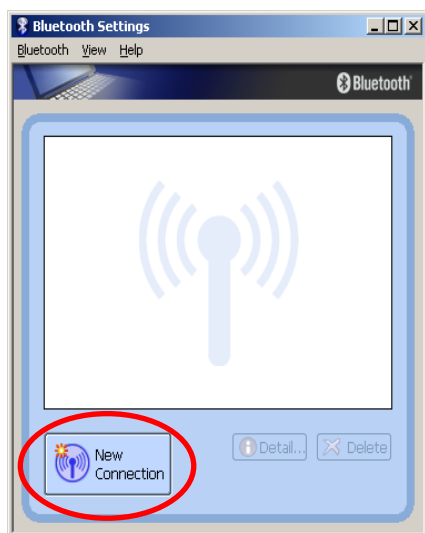
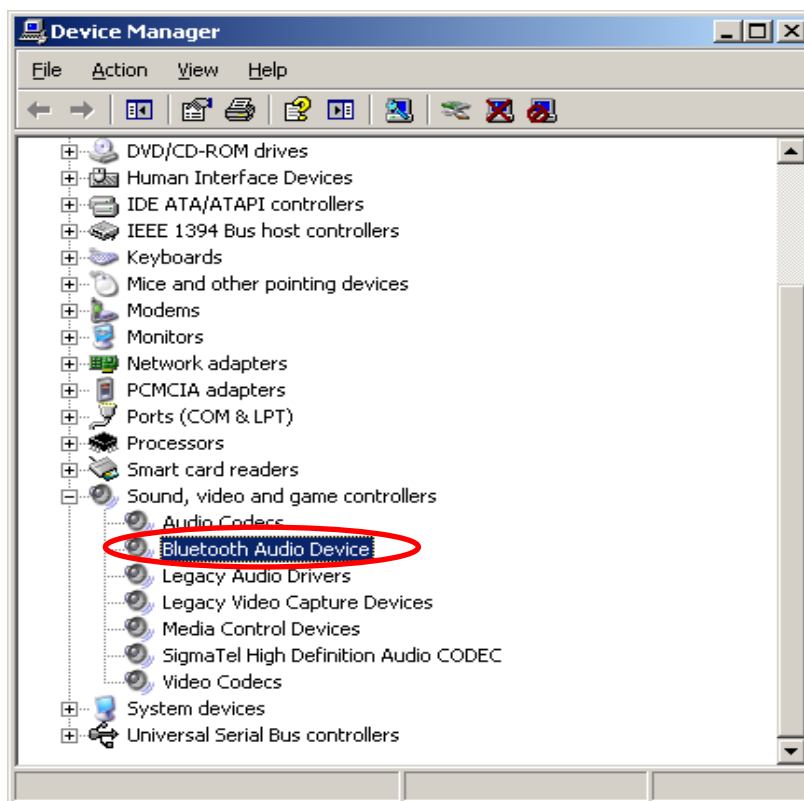

Figure 2-7: A2DP example 1 – PC Bluetooth settings
Figure 2-12: A2DP example 1: New Bluetooth Audio Device in the Device Manager
This assumes the BTM5xx device is connected to a terminal program e.g. Ezurio Terminal on a PC. The sequence of AT commands and the instructions for the PC side are listed in Table 2-13. Figure 2-7 through to Figure 2-12 are screenshots of the process.
2. Click on “New Connection” - Figure 2-7 : A2DP example 1 – PC Bluetooth settings